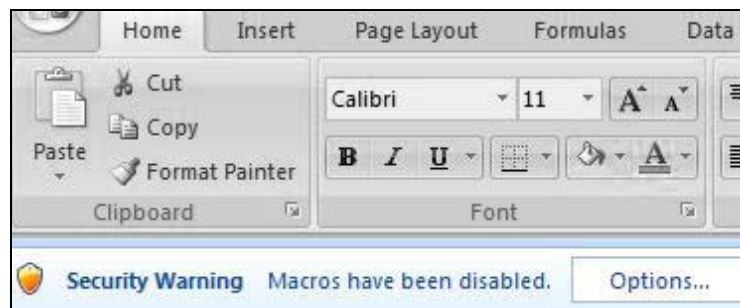

Figure 4.1a. Prompt to enable macros in Excel 2007
- Macros need to be enabled. Depending on the security settings in your version of Microsoft Excel, users may see a security warning like those in Figures 4.1a and 4.1b and should choose the option to **enable macros**.